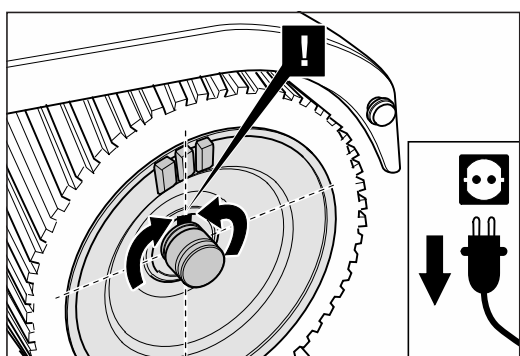

Fig. 55 Turn the sanding drum in such a way that the groove is pointing upwards, to ensure that the parallel key is not lost.
- 9 Turn the sanding drum in such a way that the parallel key is pointing upwards to ensure that the parallel key is not lost (fig. 55). Now pull the sanding drum out sideways out of the housing.